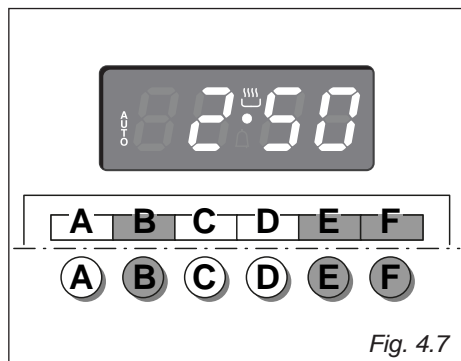

Fig. 4.7
1. Set the length of the cooking time by pushing the “B” button and the “F” button to advance, or “E” to go backwards if you have passed the desired time (fig. 4.7).